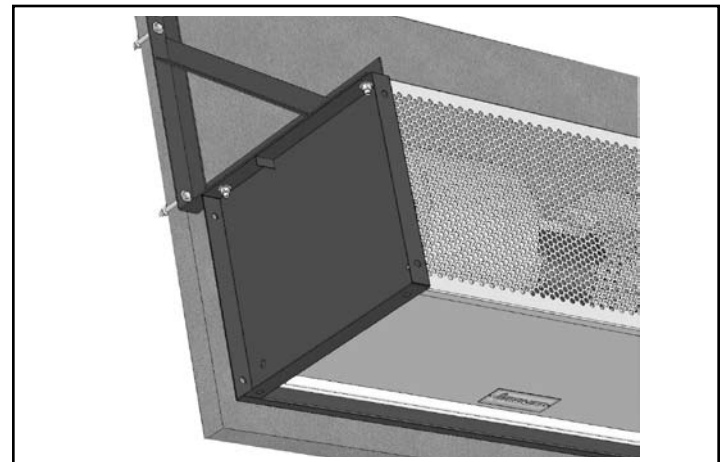

FIGURE 2 - Wall Mounting Bracket
- B. The VSA/VSB series endplates are equipped with  $\frac{1}{2}$ " holes for wall mounting. The unit may be attached to the wall using, at minimum,  $\frac{3}{8}$ " bolts through the holes on the back of the endplate. **See Figure 1.** Or, the unit may be attached using an optional wall mounting bracket or a combination of extension and wall mounting brackets (available from Berner) attached to the holes on the top of the endplate and the wall. **See Figure 2.**